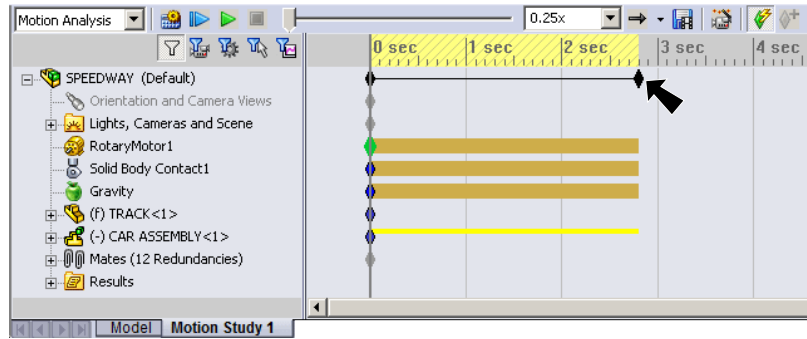

Fig. 30
Step 4. Set the Motion Study duration to 2.8 seconds on the Timeline. To change duration, in the top Timeline drag the Key Point at 4 seconds to 2.8 seconds, Fig. 30.